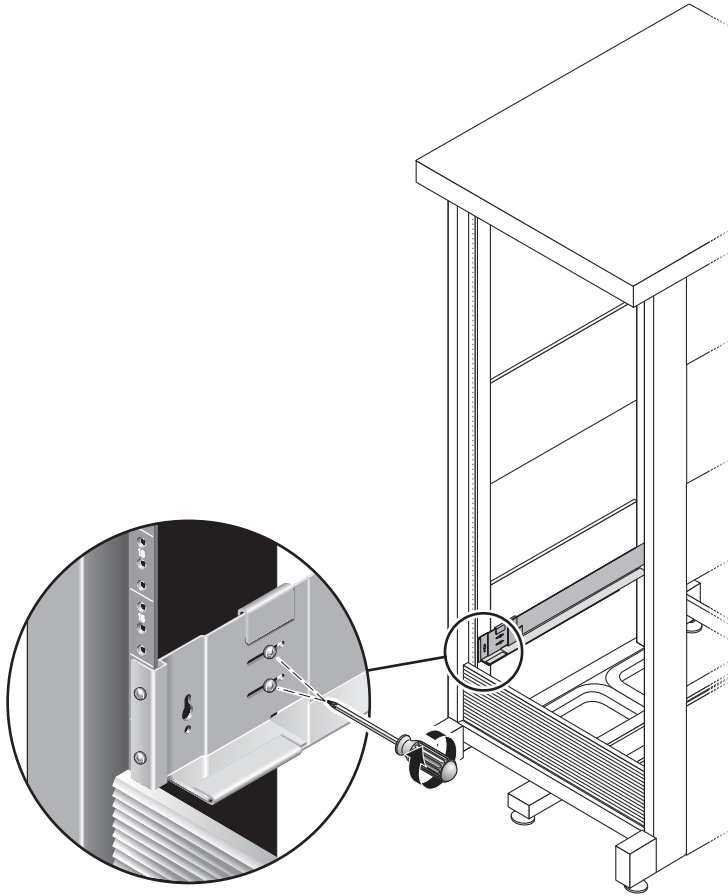

FIGURE 2-12 Tightening the Adjusting Screws
8. Using the #2 Phillips screwdriver, tighten the four adjusting screws (two on each side) toward the back of each rail (FIGURE 2-12).